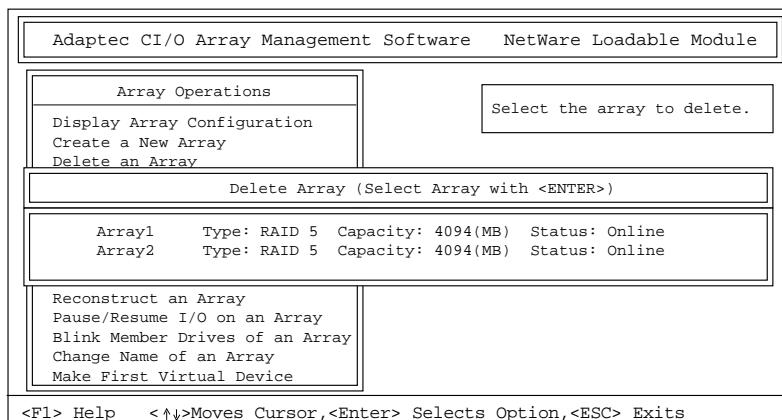

Figure 3-5. Delete Array Window
- 2 When the Array Operations menu appears, select **Delete an Array**. The Delete Array window appears, similar to Figure 3-5.